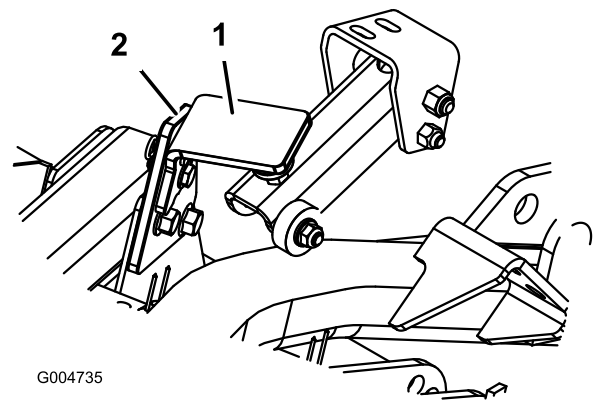

Figure 75
2. Remove the hairpin cotter and clevis pin securing the deck transport latch to the latch plate (Figure 75). Pivot latch toward rear of deck.